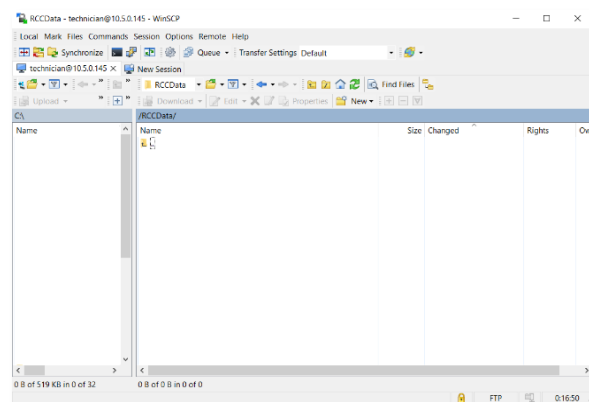

Figure 105: The contents of the 'RCCData' folder when using an FTPS client.
3. Open the **RCCData** folder. The RCCData folder will open and display the available files (**Figure 105**).